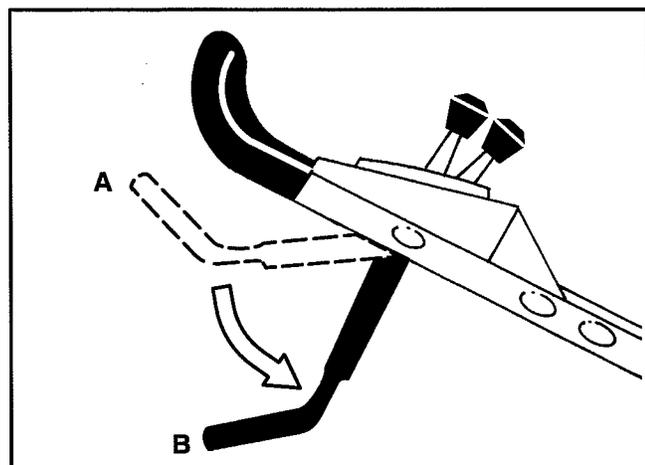

Figure 13
2. Push the control bar down to its lowest position (Fig. 13, position B).